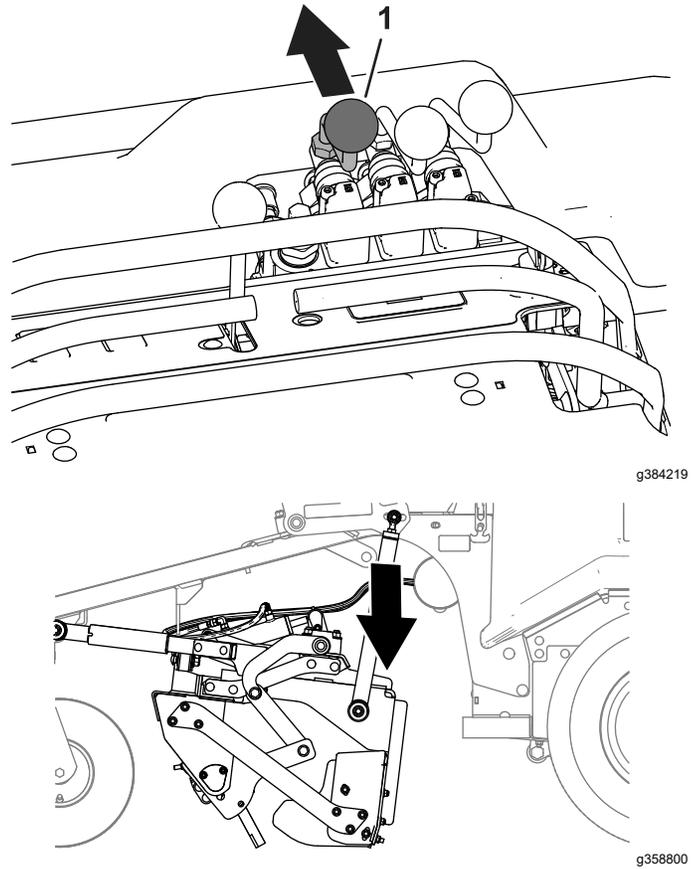

**Figure 31**
3. With the engine running, pull back the mid-mount attachment lift control to raise the mid-mount attachment(Figure 31).